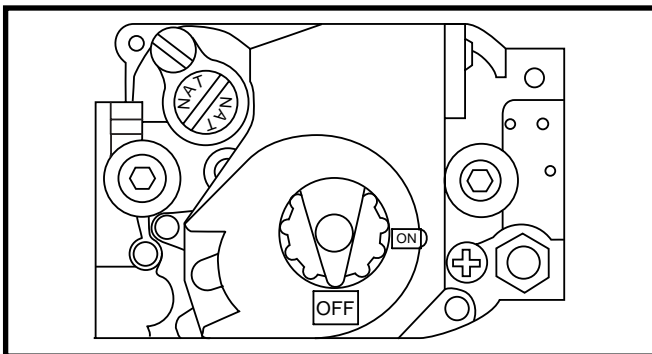

Figure 1. Gas Valve
7. Turn the gas valve knob to the OFF position. See Figure 1 for gas valve knob location.